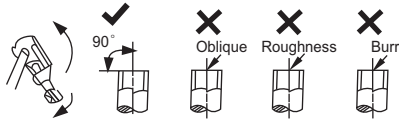

Fig. 44 – Pipe Cutting
- c. Cut the pipe, with a pipe cutter, at 90 degrees (see Fig. 44).